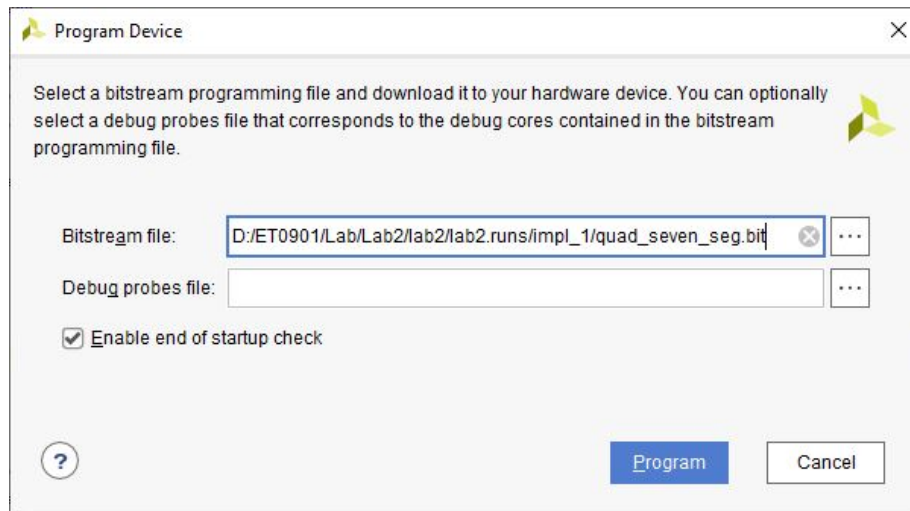

Figure 14: Program Device dialog box
- 6.7 Click on the *Program device* link in the green information bar to program the target FPGA device. The *Program Device* dialog box as shown in **Figure 14** will be displayed.